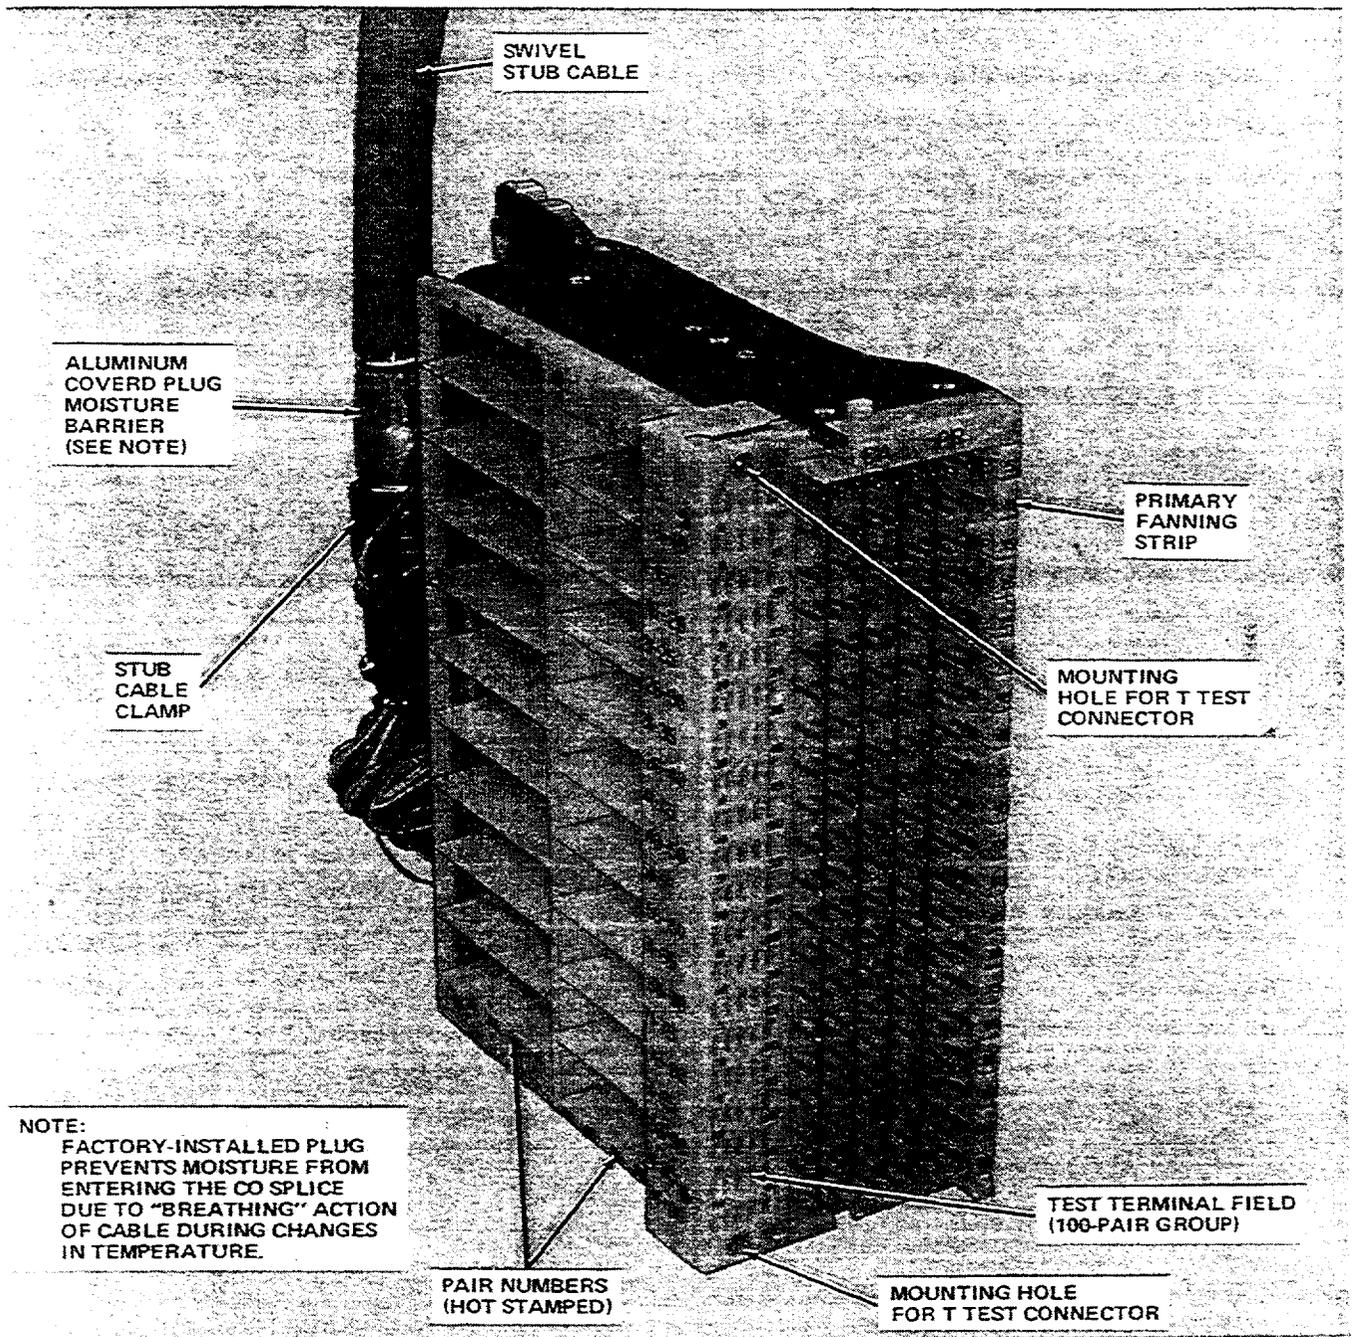

Figure 6. 310M-Type Connector — Left Side View
2.07 Table A lists the applications, codes, and specifications of the 310-type connectors. Figure 6 shows the 310M-type connector and Table B lists the applications, codes, and specifications of the 310M-type connectors.